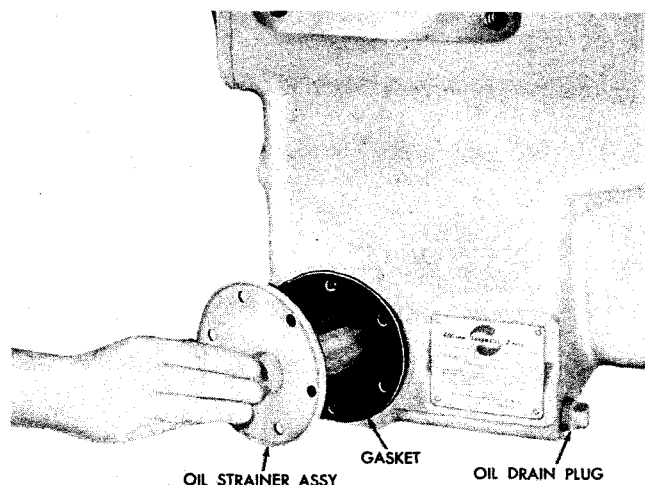

Fig. V-2. Removing oil strainer and gasket
(2) Remove the oil drain plug and drain oil and reinstall (fig. V-2).
(3) Remove sixbolts and six lock washers. Remove the oil strainer assembly and gasket (fig. V-2).